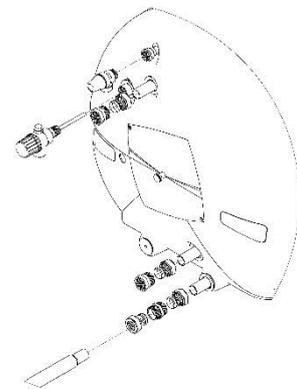
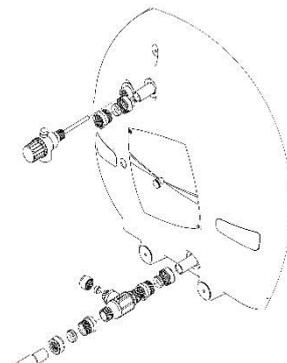

Figure 6.11 Tank End - Closed Circuit
Figure 6.12 Tank End - Open Circuit
29. For closed circuit models, insert the 100 kPa closed circuit pressure relief valve into the $\frac{1}{2}$ " tank socket (Figure 6.11). Note this valve is not used on open circuit models.
30. For a closed circuit model, slide an Rp $\frac{3}{4}$ " compression union onto the cold inlet of the tank (Figure 6.11). Tighten the assembly taking care not to twist the copper tube on the tank. For an open circuit model, the Thermal Arrestor Valve (TAV) will make up the inlet combination. Attach an Rp $\frac{3}{4}$ " compression union to both ends of the TAV and then slide onto the cold inlet of the tank. Make sure the arrow on the TAV is pointing towards the tank. Tighten the assembly taking care not to twist the flexible pipe.
31. To complete the cold pipe connection, slide the appropriate fitting onto the remaining connection pipe. For an open circuit model, this will be the compression union on the TAV (Figure 6.12). For a closed circuit, this will be a 22mm compression union onto the closed circuit connection (Figure 6.11). Tighten the assembly taking care not to twist the copper tube on the tank.